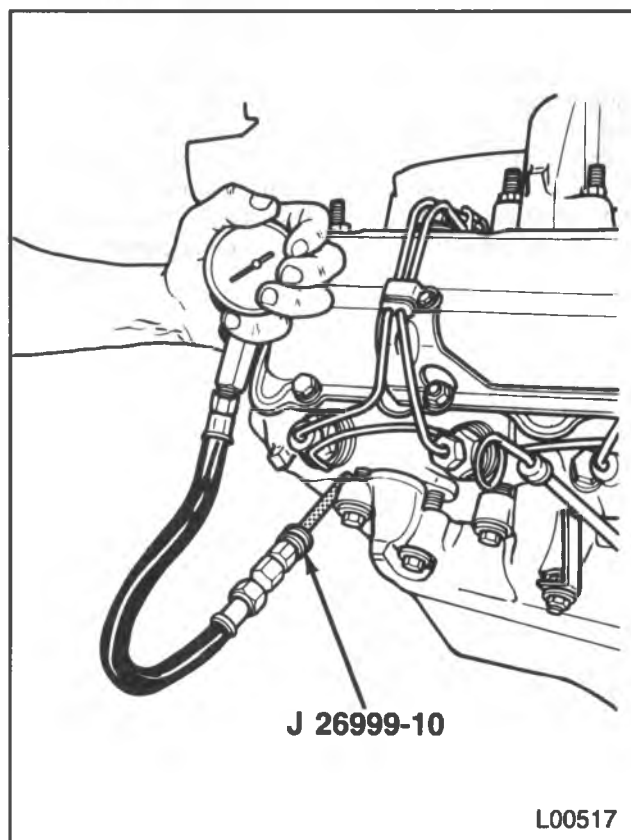

Figure 1 — Checking Diesel Engine Compression
4. Screw J 26999-10 into the glow plug hole of the cylinder that is being checked. Connect to a suitable compression gage (figure 1).